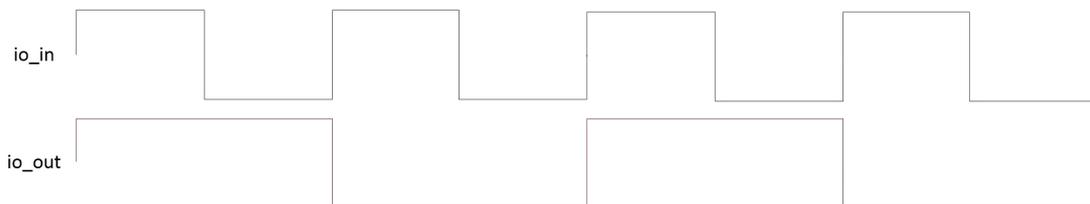
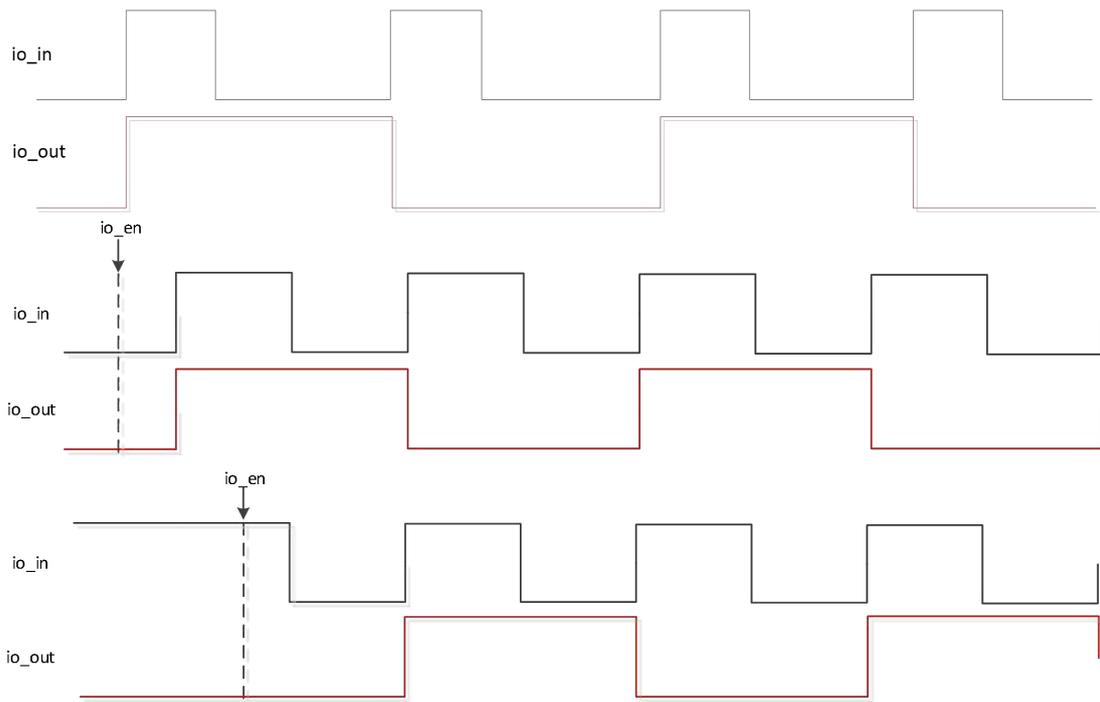
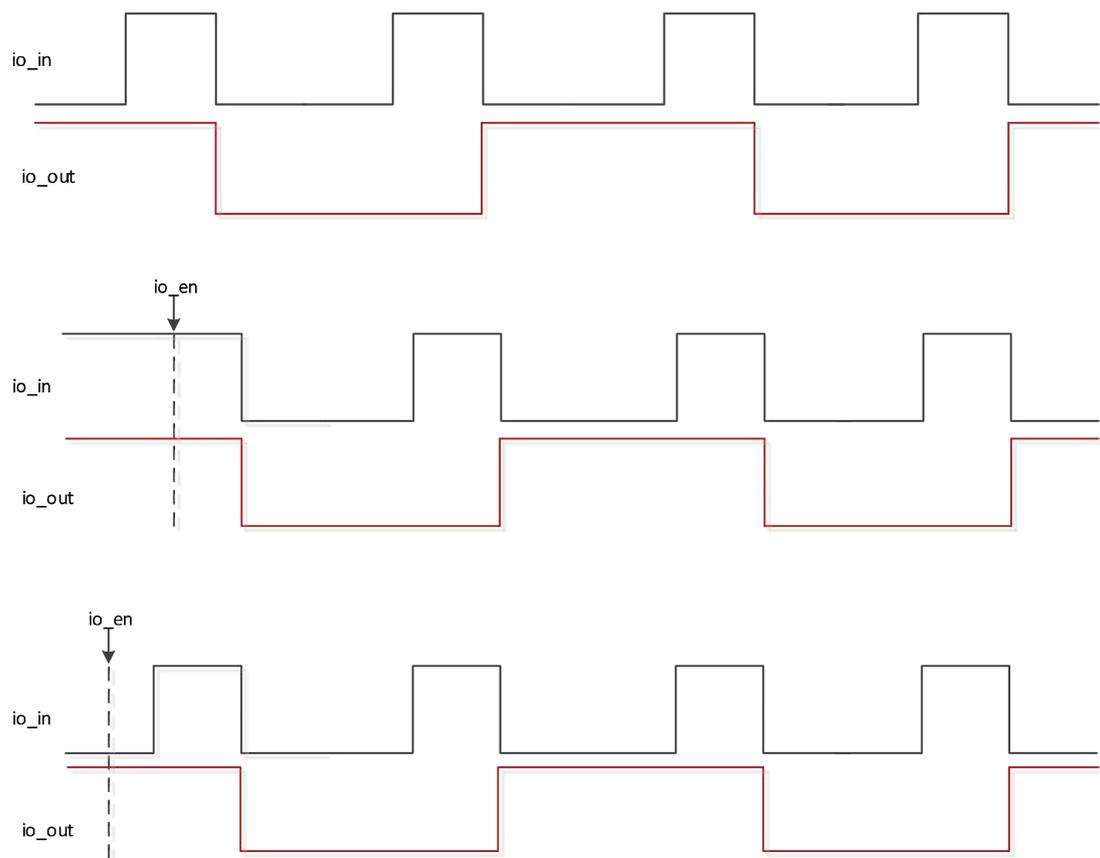

Figure 18 (n+1) crossover frequency
Figure 19 Rising edge alignment
Figure 20 Falling edge alignment
- When io\_in is uniformly period-distributed, io\_out maintains an equal-duty waveform after an even number of divisions, as shown in Fig. 18, Fig. 19, and Fig. 20